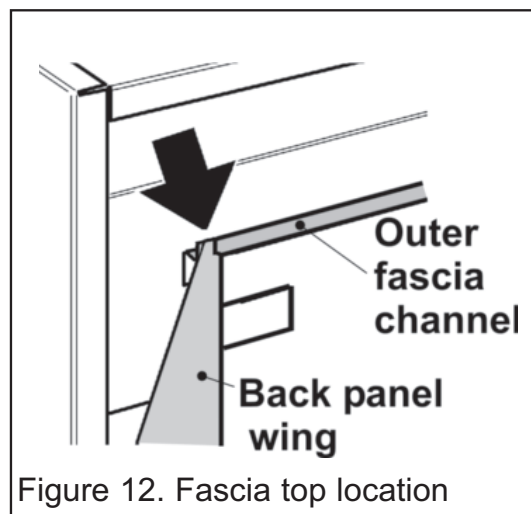

Figure 12. Fascia top location
- Place the fascia over the engine. Make sure that the channel near the top of the rear of the fascia locates fully into the wings of the engine back panel (See figure 12).
4. Replace in the reverse order. Make sure that the channel near the top of the rear of the fascia locates fully into the wings of the engine back panel (See figure 12) in the installation section.